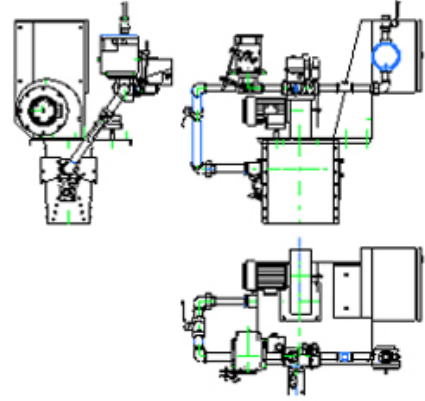

Figure 1: Vertical Down-Firing PH Burner
3. The PH burner can be mounted on the external oven walls in a “letter box” style, firing horizontally or vertically (refer to Figure 1).